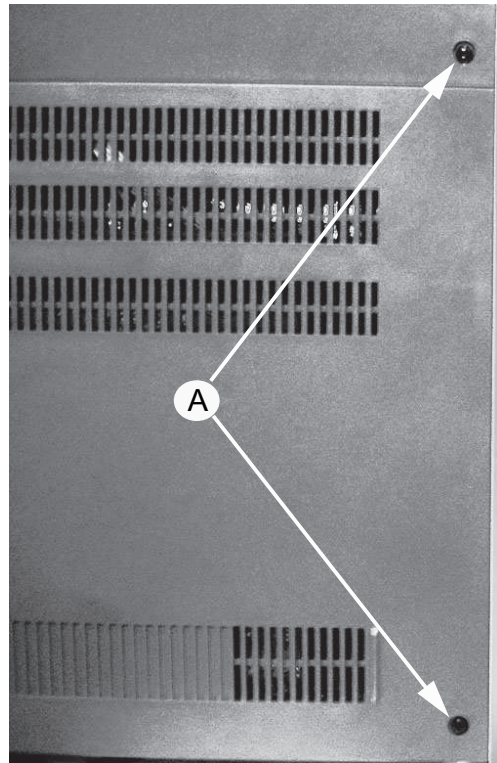
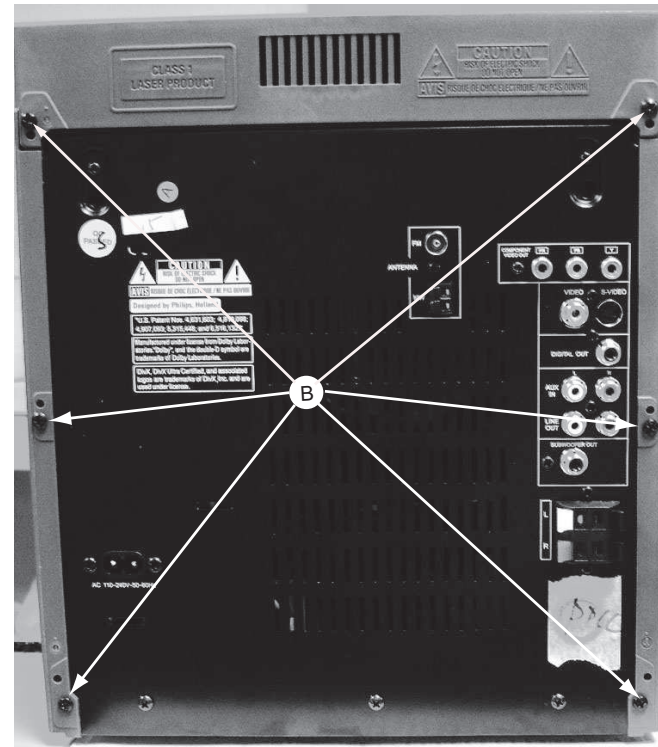

figure 1
figure 2
1) Loosen 2 screws "A" at both sides as shown in figure 1 & remove 6 screws "B" as shown in figure 2 to remove top & side cover